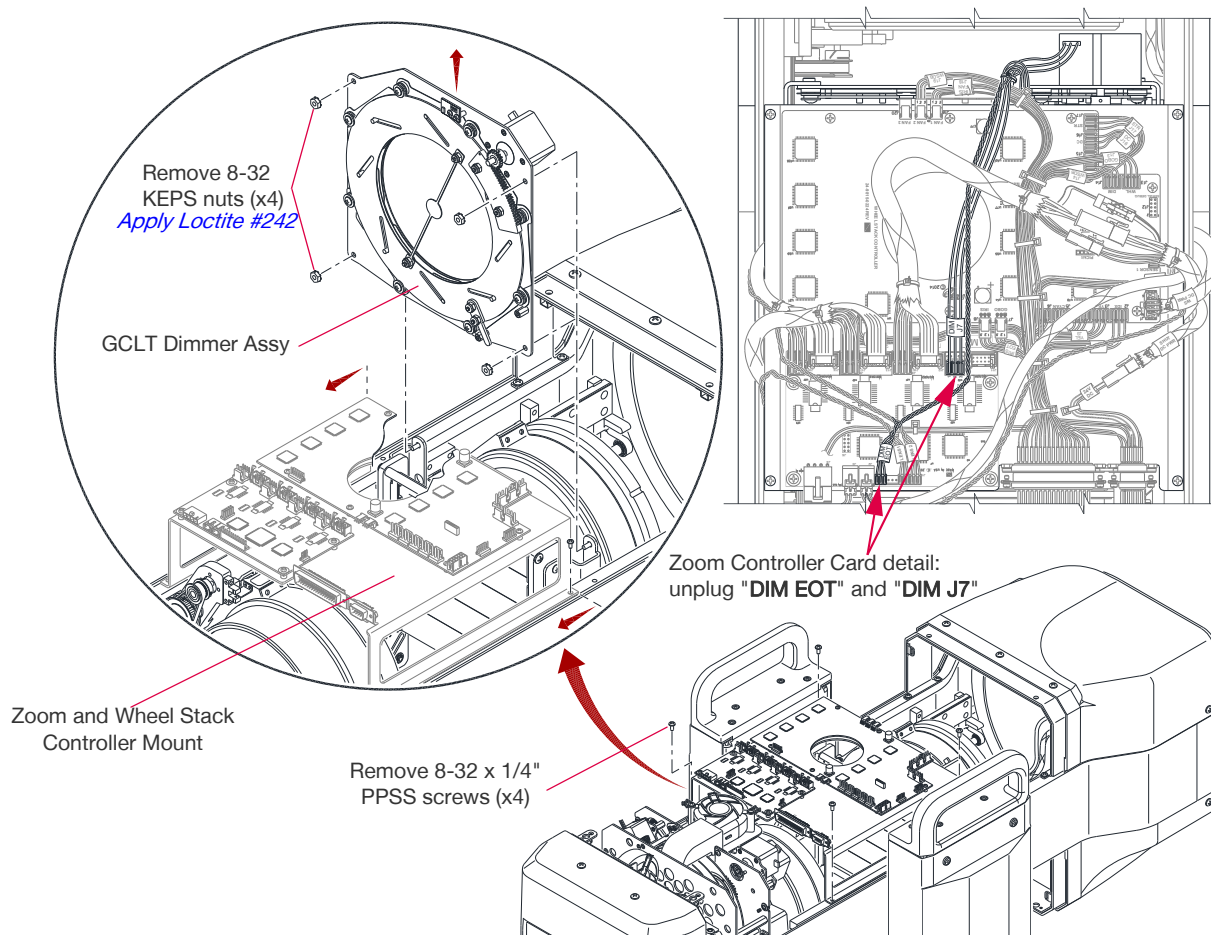

Figure 3-28: Removing the GCLT Dimmer Assembly Detail
- Step 3. Disconnect Dimmer Motor cable (labeled **DIM**) and Dimmer EOT cable (labeled **DIM EOT**) (**Figure 3-28**)
- Step 4. Remove four 8-32 x 1/4" PPSS screws from the Zoom and Wheel Stack Driver Mount and gently slide that assembly towards the lamp end of GCLT just enough to clear the mount from the Dimmer Assembly motor. (**Figure 3-28**). You do not need to disconnect all of the cabling, just the motor cable in Step 3.